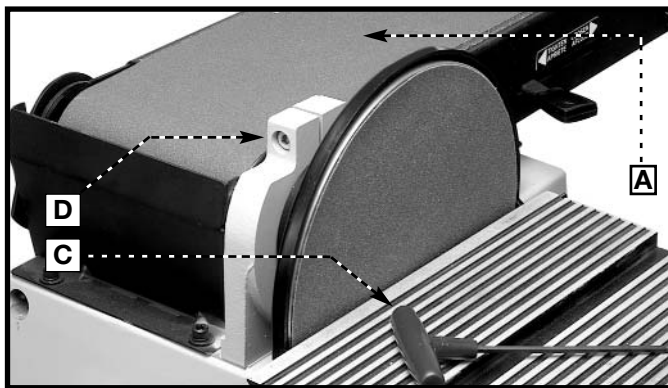
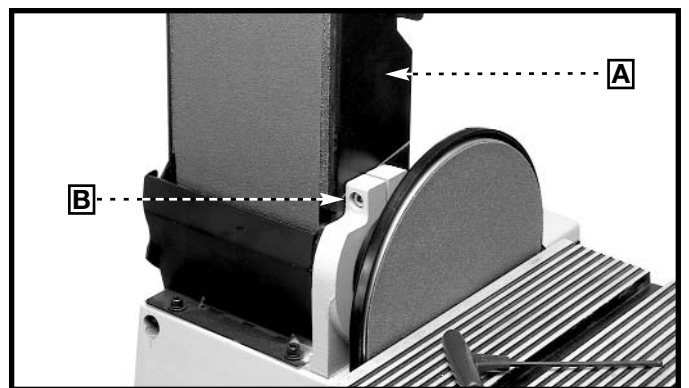

Fig. 19
Fig. 20
This can be done by grasping the switch toggle (B) and pulling it out of the switch, as shown in Fig. 20. With the switch toggle (B) removed, the switch will not operate. However, should the switch toggle be removed while the sander is running, it can be turned “OFF” once, but cannot be restarted without inserting the switch toggle (B).
The sanding arm (A) Fig. 19 can be used in the horizontal position (Fig. 19), or in the vertical position (Fig. 20), or any angle in between. To change the position, loosen the screw (B) Fig. 20 with the hex wrench (C), move the arm (A) Fig. 20, to the desired location and tighten the screw (B).